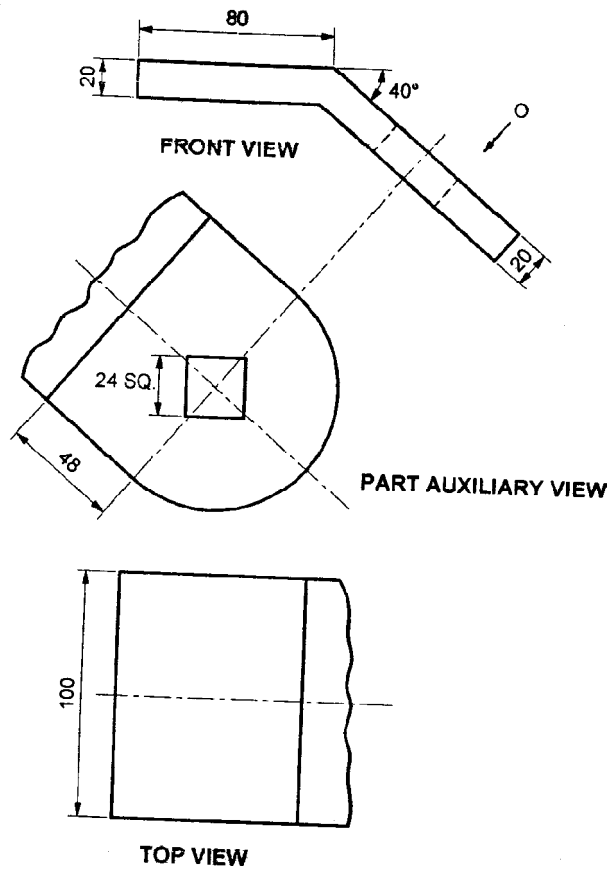

Fig. No. 1
2. a) Figure No. 1 shows partial top view, front view and partial auxillary view, draw the given views and complete the top view.